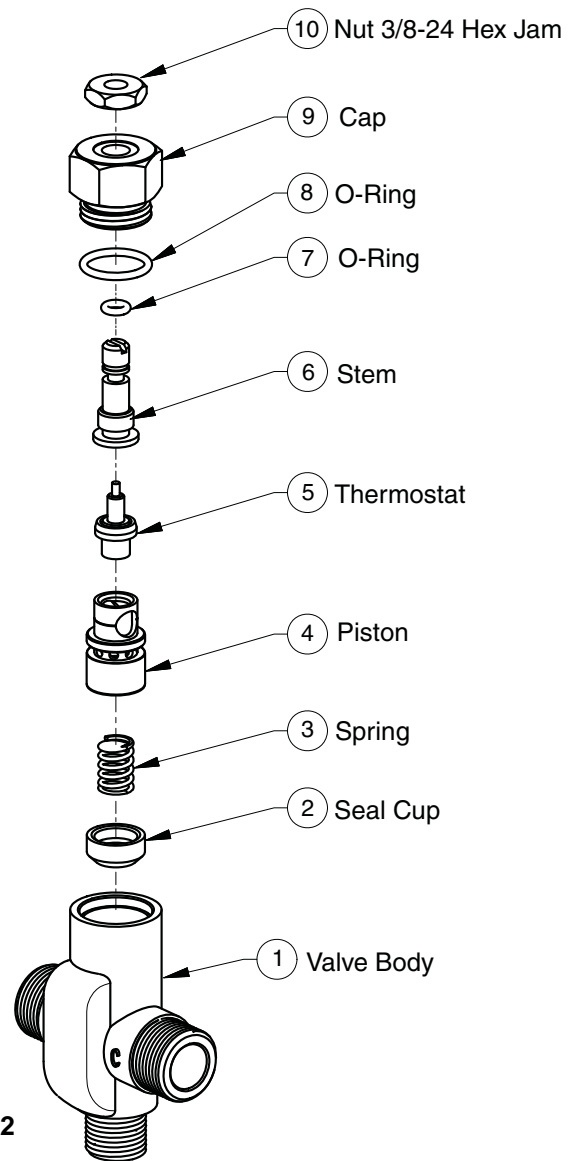

Figure 12
1. Remove the valve's cap and thermostat (see Figure 12 on Page 27).